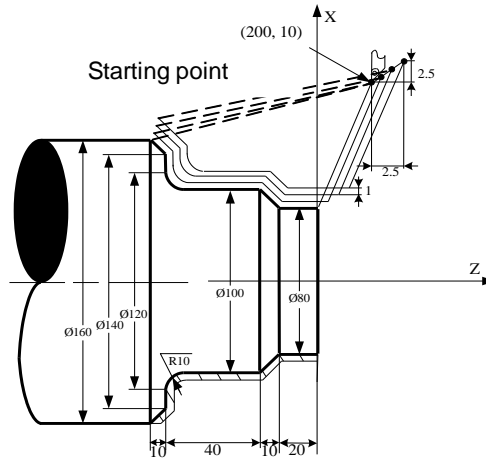

Fig. 4-5-5-2 Diagram of G73Code Example
- For example, write component processing program in the Fig. 4-5-5-2 through the cutting circulation code G73